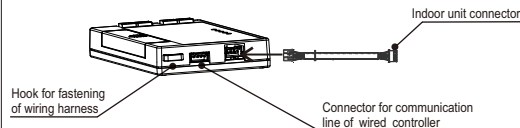

Fig. 1 Connection with indoor unit by connecting cable
- Connection with indoor unit by connecting cable. As shown in Fig.1.